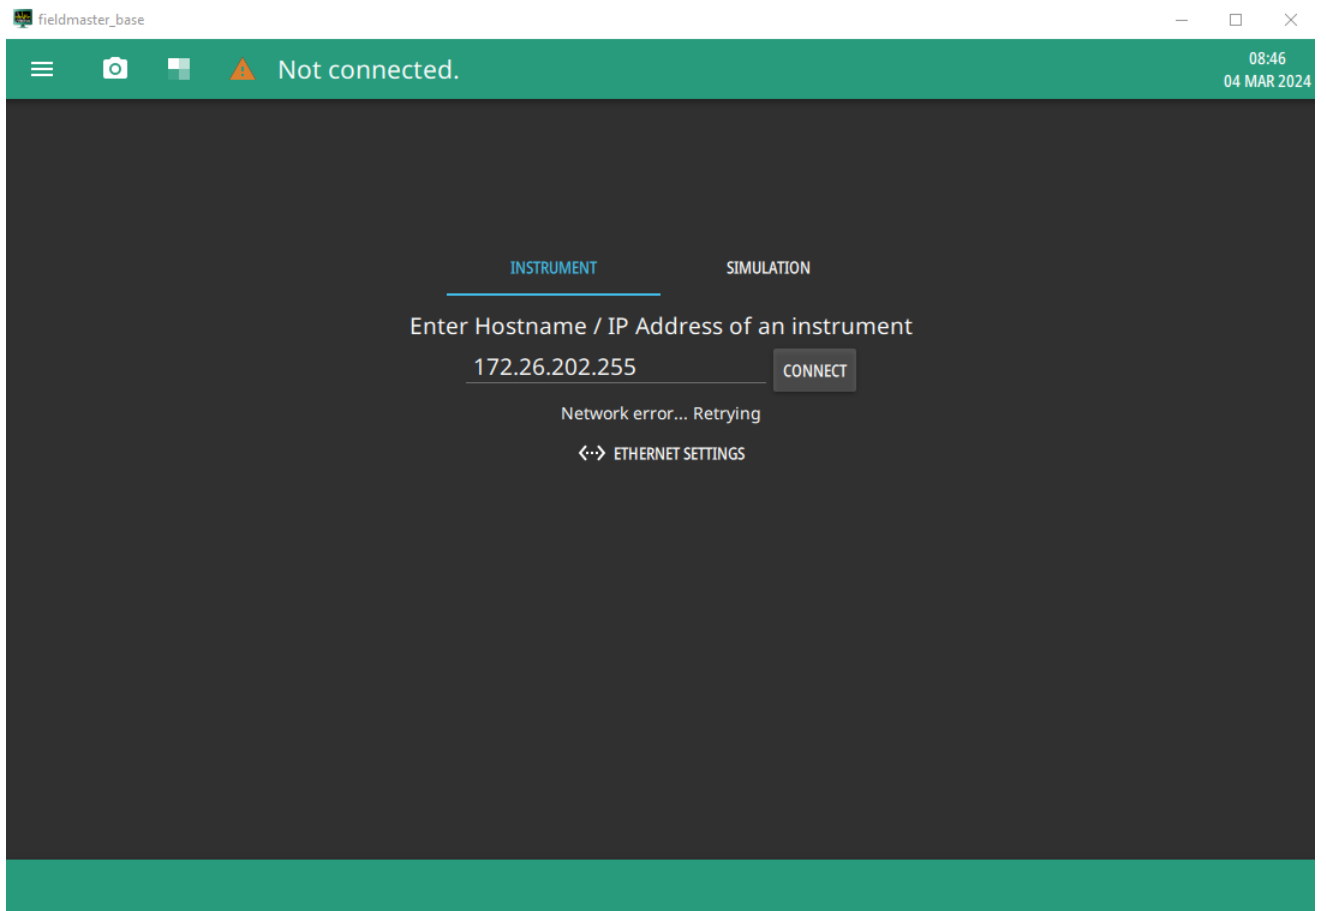

Figure C-2. Connecting to Instrument using Hostname/IP Address
2. Open Anritsu remote tool software on your PC and enter either Hostname/IP address in the INSTRUMENT tab. See Figure C-2.